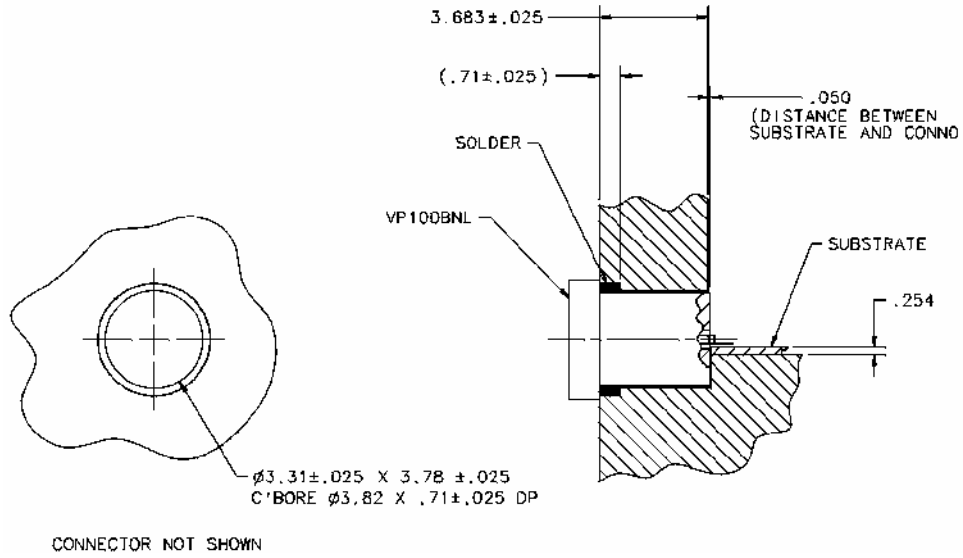

Figure 2. VP100CNL Mounting Hole Dimensions and Assembly Drawing for Thick-wall housing
Machining dimensions for the shroud mounting hole are shown in Figure 2.
- b. For a thick-wall housing place three to four solder preform washers on the shroud and place the shroud into the housing as shown in Figure 2.